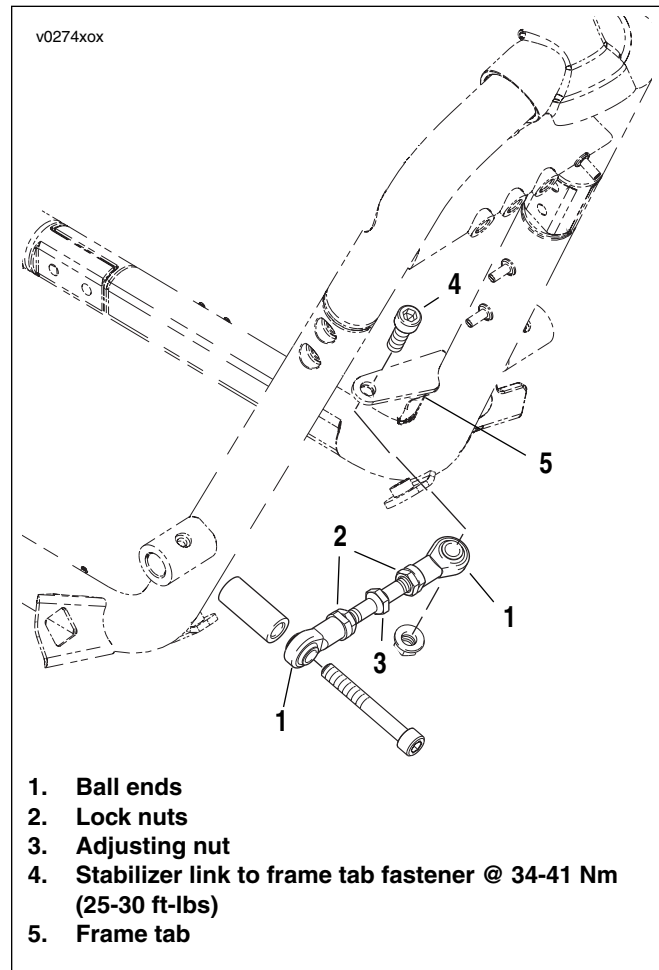

Figure 2-100. Engine Stabilizer Link
2. See Figure 2-100. If the front and rear wheels are out of alignment, loosen and remove the engine stabilizer link from the tab on the frame. This allows the engine to center itself to the front and rear engine mounts.
4. See Figure 2-100. The stabilizer link fastener (4) should fit freely through the ball end of the link (1) and the frame tab (5). If it does not, loosen lock nuts (2) on the ball ends (1) and use adjusting nut (3) and rod to adjust length of stabilizer link until stabilizer link bolt fits freely through ball end (1) of stabilizer link and frame tab (5).
5. Tighten stabilizer link to frame tab fastener (4) to 34-41 Nm (25-30 ft-lbs).